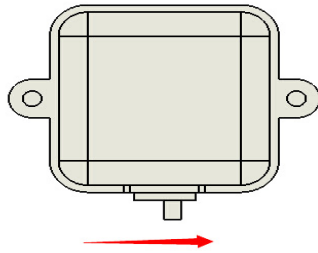

Figure 21
Step 4 Turn the Toggle Switches to the right.(Figure 21)